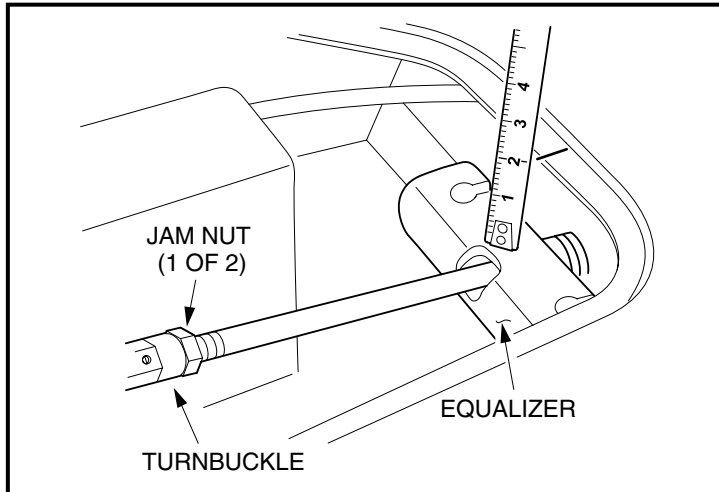

Figure 6-18 Brake Adjustment
2. Ensure that both threaded rods are visible in the witness holes of the turnbuckle before the jam nuts are tightened (**Figure 6-18, Page 6-9**).